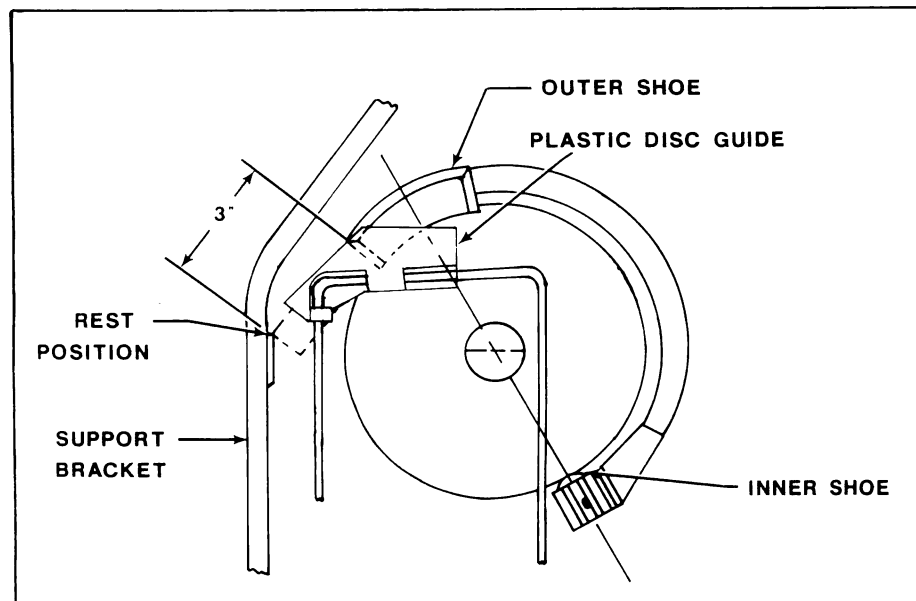

Figure 6-14. Magazine and Transfer Arm Position
2. Using a 5/32-inch Allen wrench in the end of transfer motor shaft, turn motor shaft clockwise until the gripper bow lifts the disc out of the magazine, and the outer shoe is approximately 3 inches from its rest position on the back support (see figure 6-14).